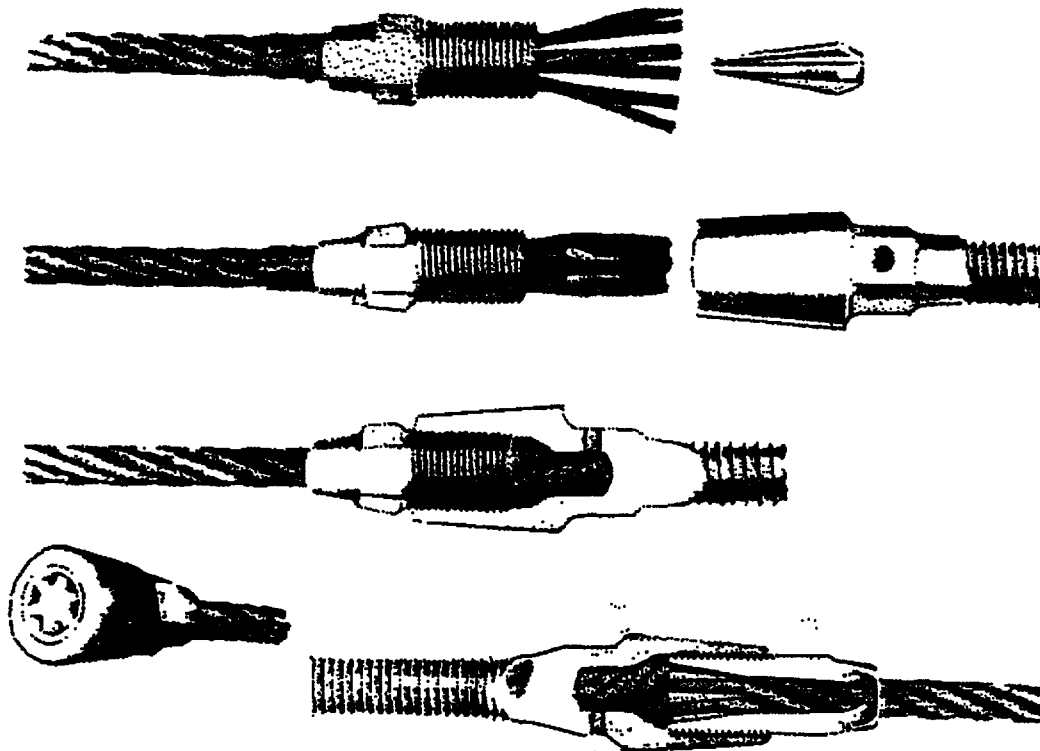

Figure 2-16 Felge wire rope socket
- d The recommended installation procedures for feige fittings (Refer to **Table 2-8** and **Figure 2-16**) are:
- (1) Place assembly blocks on the rope, then place the blocks in a vise.
- (2) Position end of rope to dimension "A" as shown on **Table 2-8** for the size rope being assembled. Tighten vise firmly.
- (3) For fiber core rope only: unlay two strands of the rope (do not unlay any of the wires in the strands) and cut out the fiber core as close to the assembly blocks as possible. Twist the two strands back to original position.
- (4) Twist the untreaded end of sleeve over the end of the rope. Twist in the direction of lay. Twist until dimension "B" is attained.
- (5) Unlay one of the strands. On right lay rope unlay the remaining five strands in a counterclockwise manner. When done correctly, the six outer strands form asymmetrical basket. Do not attempt to straighten the spiral lay of the six strands. For fiber core rope only: Place the plug in the center of the six strands. Drive the plug downward with a hammer while making certain that each of the strands is positioned properly in the plug flutes. The symmetrical basket shape must be retained while the plug is being seated. Drive the plug to a solid seat.
- (6) For IWRC rope only: Do not unlay the core. Insert both halves of the plug around the center core. Drive the plug downward with a hammer while making certain that each of the strands is positioned properly in the flutes of the plug. The symmetrical basket shape must be retained while the plug is being seated. Drive the plug to a solid seat.